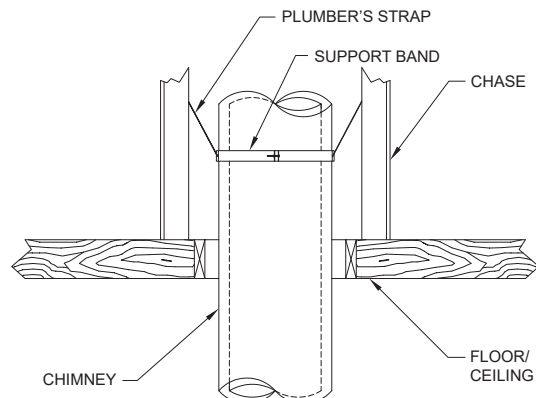

FIG. 7
Nail the brackets to the framing using a minimum of (2) nails or screws per bracket. A Support Band may be required by some fireplace manufacturers to keep the chimney vertical and help maintain clearances to combustibles within a chase. Clamp the Support Band to the pipe using the nut and bolt provided and secure legs to nearby framing using plumbers strap or guy wires. See **FIG 7**. The Support Band does not support the weight of the chimney, it is only used to keep the chimney centered within a chase.